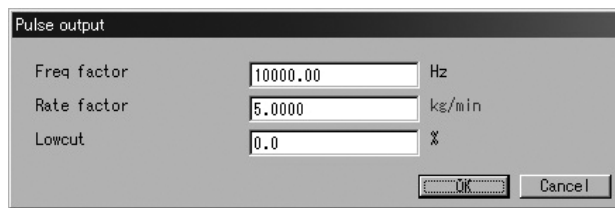

Fig.31
- ① Click on "Setup (S)" at the top-level menu of the screen, select "Analog Output 2" from "Config output" drop-down menu, and click on again.
- ② Similar to the procedure outlined in Steps ② through ⑤ in "3. Analog Output 1", Analog output 2 is set up here.
- ① Click on "Setup (S)" at the top-level menu of the screen, select "Pulse output" from "Config output" drop-down menu, and click on again.
- ② A message box like the one shown in Fig. 31 appears. Pulse output 2 is set up at this window.